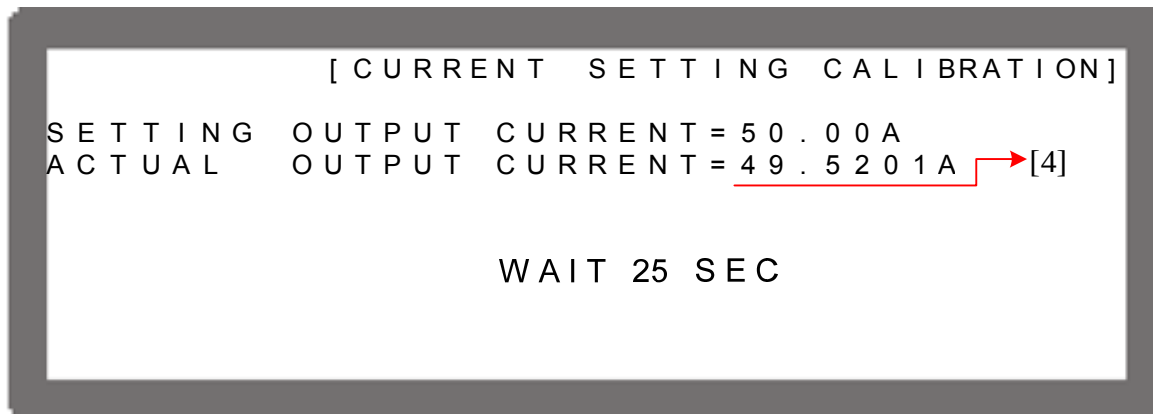

Figure 3-115
11. Press " will perform 50A calibration. The system will set the output current to 50.00A automatically and appear second reading screen. Once the reading is done, the cursor will stop at position [4] as Figure 3-115 shows. Input the current (4 digits after decimal point) read by Current Shunt (DVM) and press " to confirm.